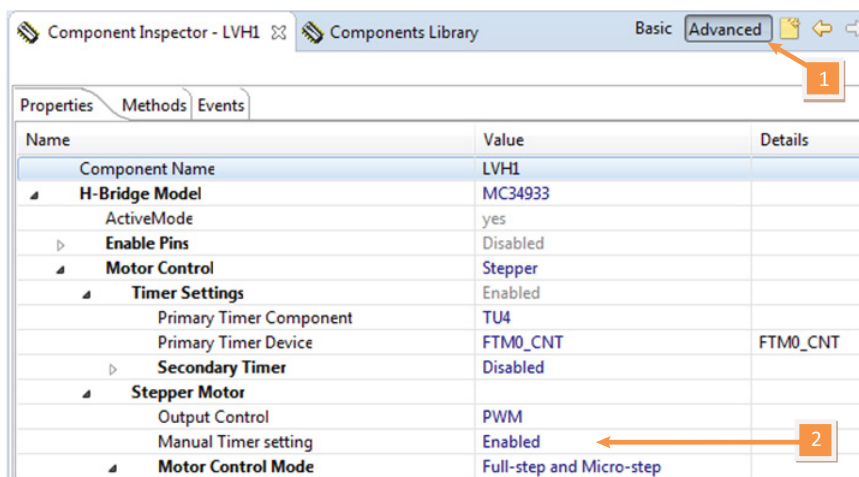

Figure 22. Enabling the Manual Frequency setting
3. In the Properties tab, find the Motor Control -> Stepper Motor -> Manual timer setting property and set the value to **Enabled**. If you do not see this property, make sure that component visibility is set to **Advanced** (see Figure 22).